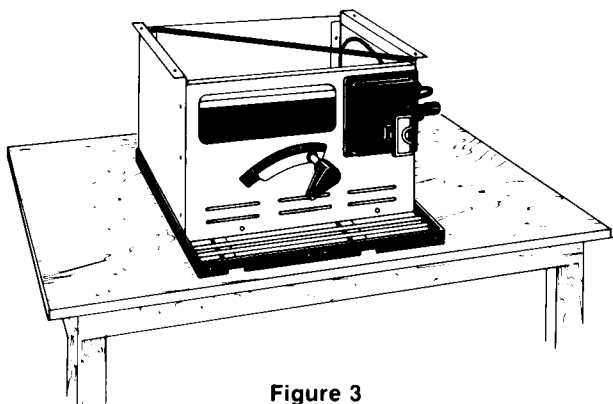

Figure 3
A. Lay the Table Saw **TOP DOWN** on a smooth, flat surface with the switch facing you as shown in **figure 3**.